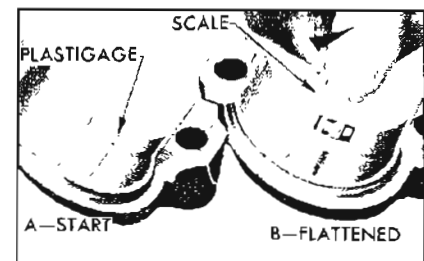

Figure 2-41—Checking Bearing Clearance With Plastigage
2. Place a piece of Plastigage lengthwise along the bottom center of the lower bearing shell (Figure 2-41, View A), then install cap with shell and tighten bolt nuts to 30-35 ft. lbs. torque. NOTE: The rib on edge of cap and the conical boss on web of rod must be toward rear of engine on all rods in left bank and toward front of engine in right bank.
flattened Plastigage at its widest point. The number within the graduation which most closely corresponds to the width of Plastigage indicates the bearing clearance in thousandths of an inch. See Figure 2-41, View B.